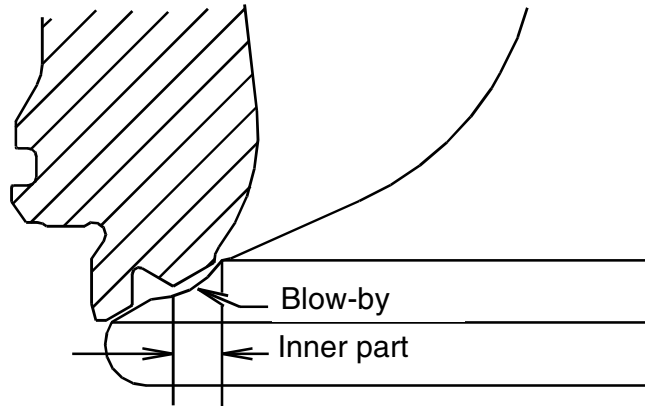

Fig. 4: Blow-by
- Visually check the inner part of the seating for blow-by (Fig. 4 and Photo 1).